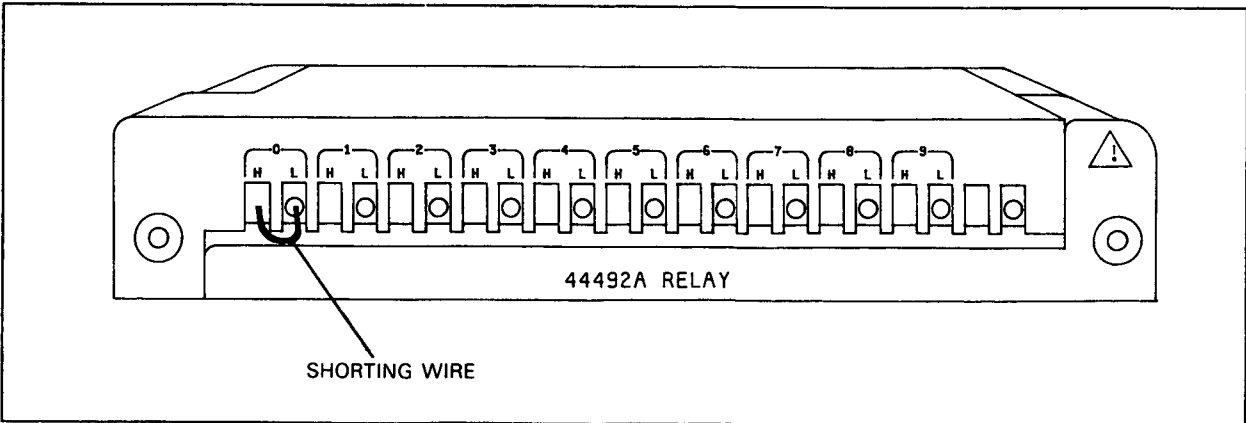

**Figure 4-22. HP 44492A Terminal Block Assembly Connections**
1. Connect a shorting wire to the channel 0 inputs of the Terminal Block assembly as shown in Figure 4-22.